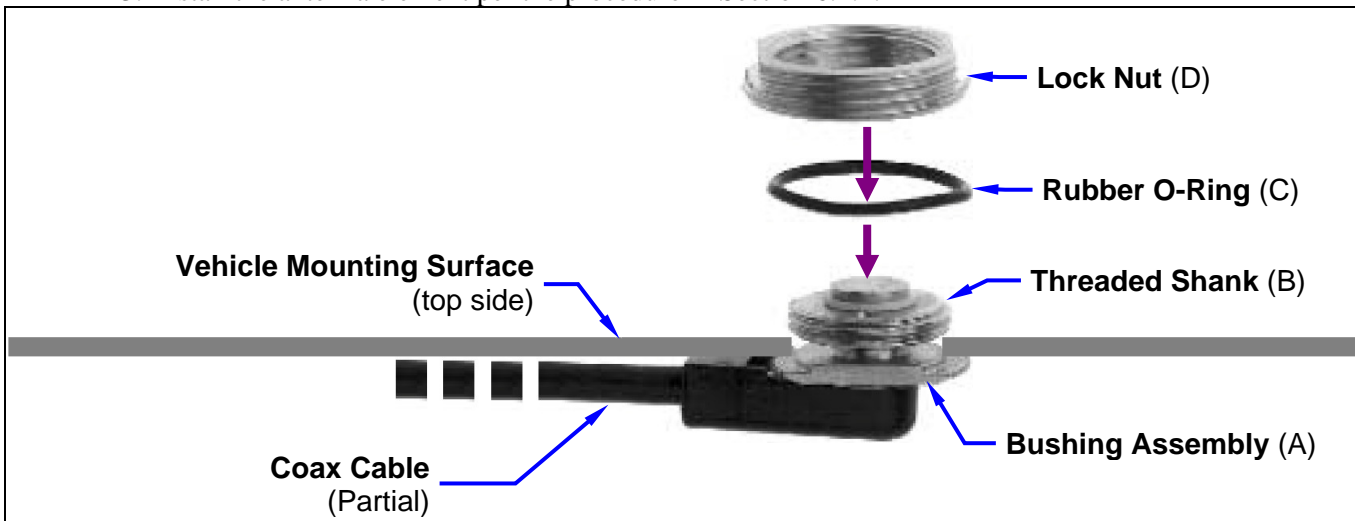
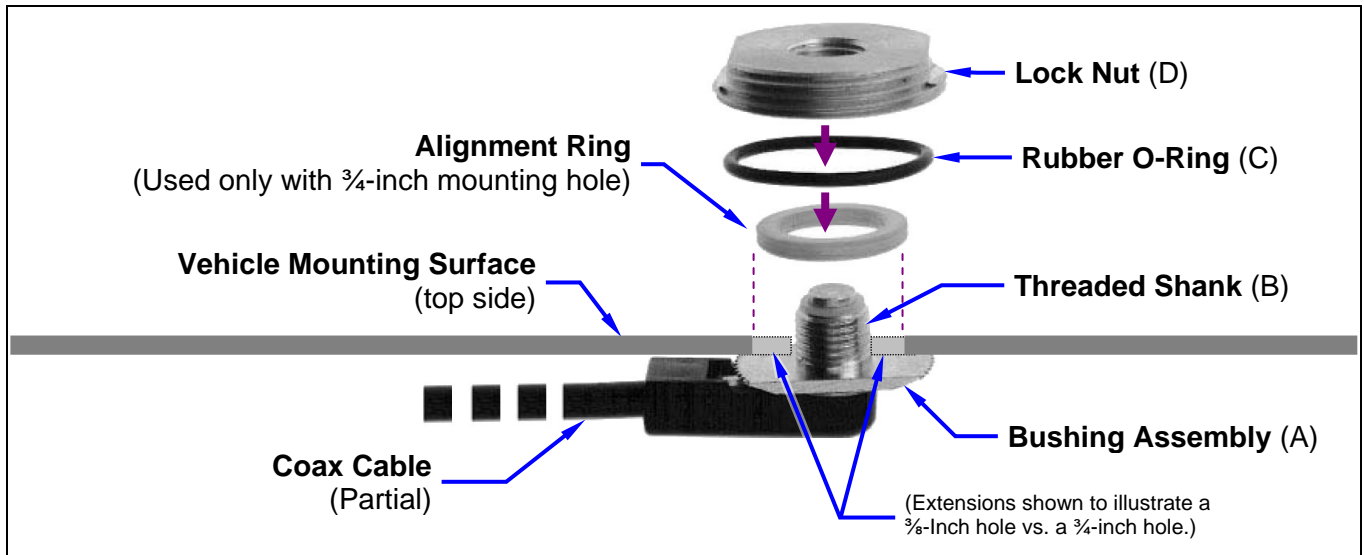

Figure 6-3: Installing a Standard 3/4-Inch NMO Antenna Mount (e.g., AN-125001-001)
Figure 6-4: Installing a Thick-Roof NMO Antenna Mount (e.g., AN-125001-003)
11. As illustrated in Figure 6-3 and Figure 6-4, add the O-ring (C) and lock nut (D) to the top of the mount’s bushing assembly (A). With the O-ring in the groove in the underside of the lock nut, thread the lock nut onto the bushing assembly. Be sure the O-ring remains in the groove before tightening the lock nut.
2. Place the gasket included with the antenna element (not pictured in Figure 6-3 or Figure 6-4) around the mount and against the surface of the vehicle. If a lubricant or sealant was included with the gasket, apply it to the gasket before placing the gasket.